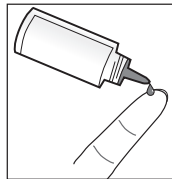

Figure 19
4. Squeeze the bottle again to get a second drop onto a clean, non-absorbent surface or on your clean fingertip. See Figure 19.